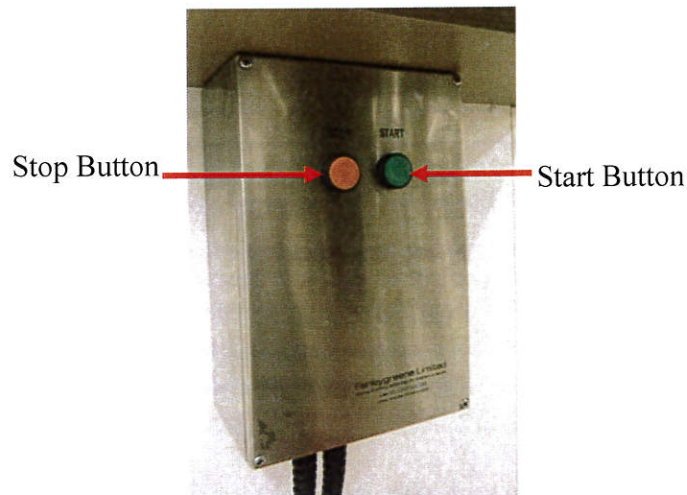

Figure 1: Separation unit control panel.
- 6.2.2. The separation unit is activated using the control panel shown in Figure 1: and allowed to run for the set duration.